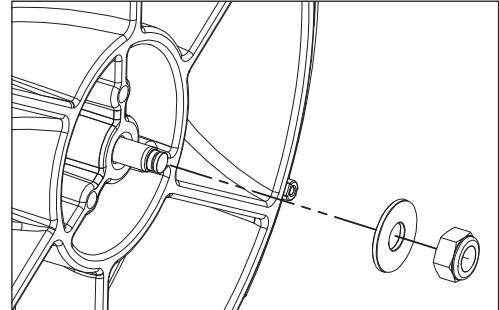

FIGURE 9.3
3. Hold the flywheel firmly with one hand and use a 17mm socket to remove the nylock hub nut and the washer from the shaft. (Figure 9.3)